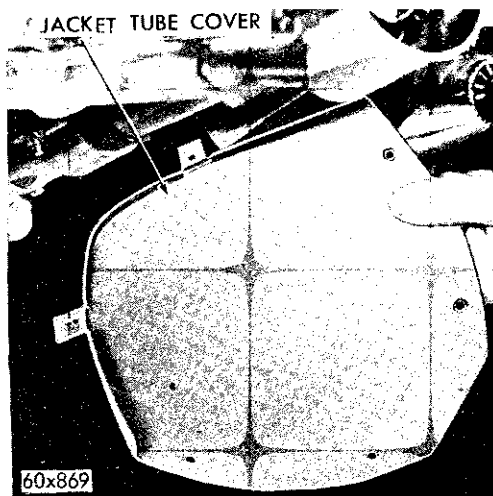
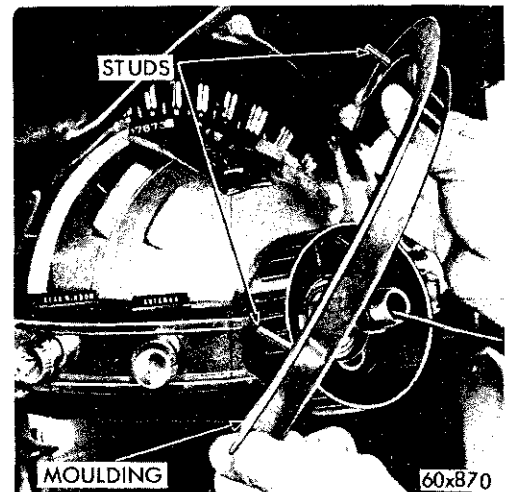
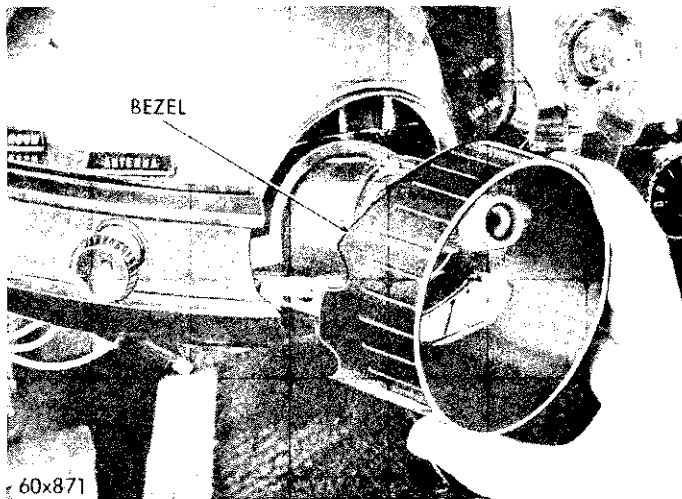
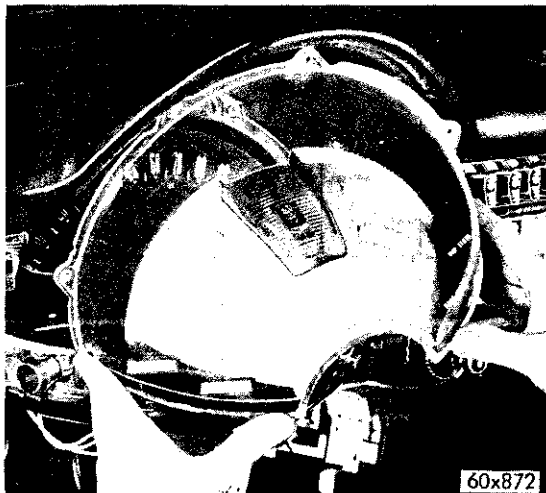

Fig. 74—Removing or Installing the Jacket Tube Cover
Fig. 75—Removing and Installing the Instrument Cluster Dome Moulding
Fig. 76—Removing the Jacket Tube Bezel
Fig. 77—Removing or Installing the Instrument Cluster and Dome
(1) Remove the six steering jacket tube cover screws from underside of the jacket tube (Fig. 74).
(2) Disconnect all the wires at the terminals before loosening the cluster attaching screws.
(3) Remove the two screws (one each side of steering jacket tube) and remove the steering tube bezel (Fig. 75).
(4) Remove the two self-locking nuts which retain the instrument cluster and plastic dome retainer to the instrument panel and remove the retainer (Fig. 76). These stud nuts can be reached through the opening between the panel and the jacket tube.
(5) Remove the two screws holding the junction block to the instrument panel and swing the junction block out of the way to allow for loosening of the screws attaching the astrodome supports.
(6) Carefully pull the supports away from the steering jacket tube to afford clearance and release the base of the cluster from the supports and at the same time tip the complete unit towards you to clear the back of the cluster from the instrument panel eyebrow (Fig. 77) and remove the unit from the car for further disassembly or testing.
(7) Disconnect the speedometer cable and the or-
(3) Position the instrument cluster in the panel opening, tilt the rear of the cluster toward the front of the vehicle and carefully position the base of the cluster on the astrodome supports.
(4) Pull the astrodome supports away from the instrument panel and jacket tube support just far enough to enter the base of the cluster into position.
(5) Install the four screws attaching the plastic dome and cluster to the instrument panel.
(6) Tighten the two astrodome support screws.
(7) Attach the junction block to instrument panel and install attaching screws.
(8) Install the instrument cluster retainer (Fig. 75) and the two self-locking nuts.
(9) Connect all wires disconnected at time of removal.
(10) Install the steering tube bezel and the two bezel attaching screws (Fig. 76).
(11) Install the jacket tube cover and the cover attaching screws (Fig. 74).